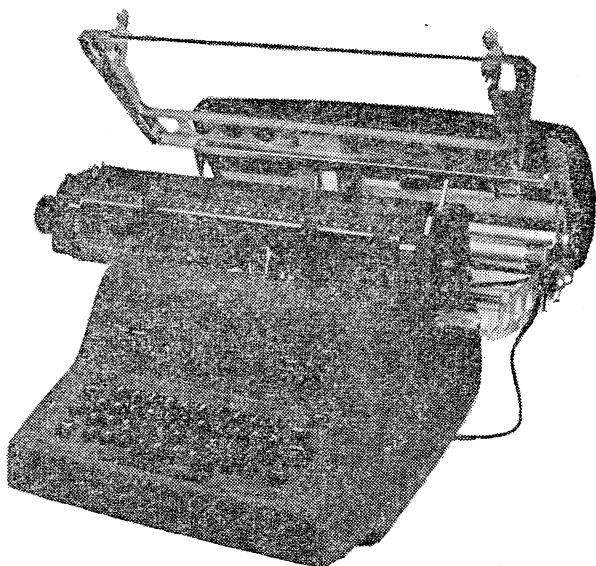

Figure 4. Hektewriter Attachment Raised
8. Mount the Hektewriter to the typewriter (Figure 4). Tighten the mounting screws and couple the connecting plug to that of the impulse emitter.
With the auxiliary carriage lowered in operating position, the motor switch connects both the typewriter and Hektewriter to the power supply. When the auxiliary carriage is tilted up by releasing its latches it automatically raises the paper bail and opens a microswitch, cutting off the power connection. With the auxiliary carriage in this raised position the typewriter can be used for normal typing (Figure 4).